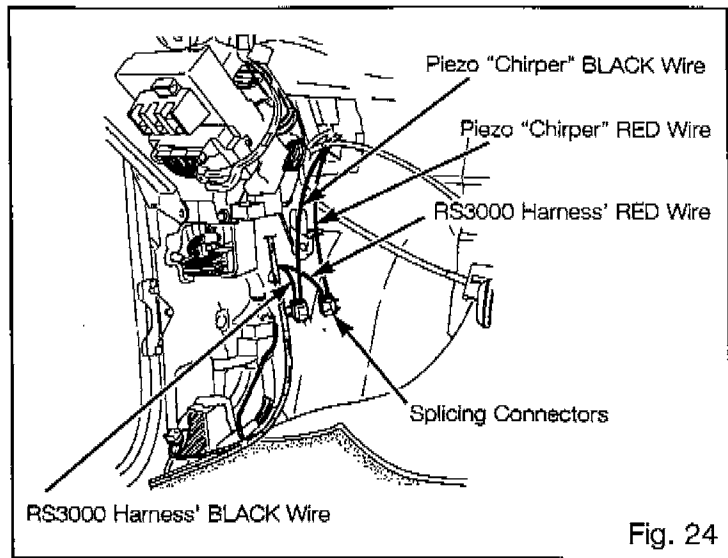

Fig. 24
- (6) A) Locate the RS3000 harness' RED wire and the Piezo "Chirper" RED wire. Fig 24
- B) Using a splicing connector, attach the wires to each other as shown. Fig 24
- C) Locate the RS3000 harness' BLACK wire and the Piezo "Chirper" BLACK wire. Fig 24
- D) Using a splicing connector, attach the wires to each other as shown. Fig 24